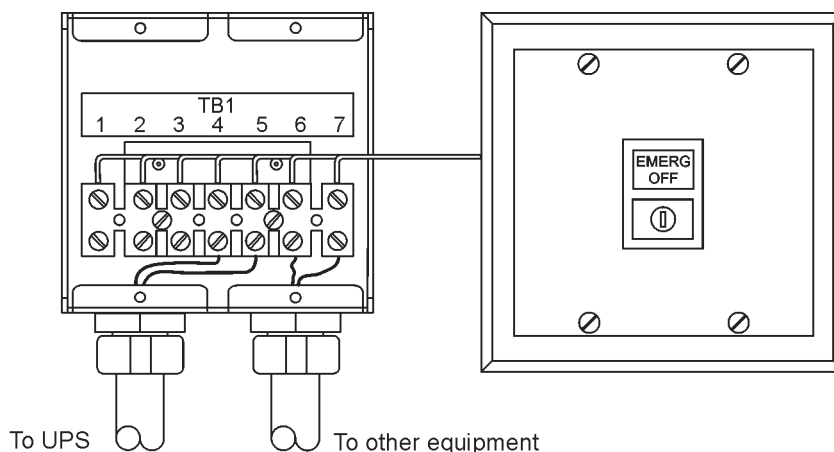

Figure 4-13. Remote EPO switch
A remote EPO switch can be used in an emergency to shut down the UPS and remove power to the critical load from a location away from where the UPS is installed. Figure 4-13 shows a remote EPO switch.
11. If required, install wiring from the remote EPO switch to the trip circuitry of the upstream protective devices. A normally-open (NO) contact is provided between terminals 6 and 7 of the remote EPO switch (where applicable), as shown in Figure 4-13. Remote EPO switch wiring must be in accordance with electrical code requirements.
6. Install the HotSync CAN Bridge Card into an open X-Slot communication bay on the front of the UPS. See Figure 4-9 on page 44 and Figure 4-13 on page 50 for X-Slot communication bay locations.